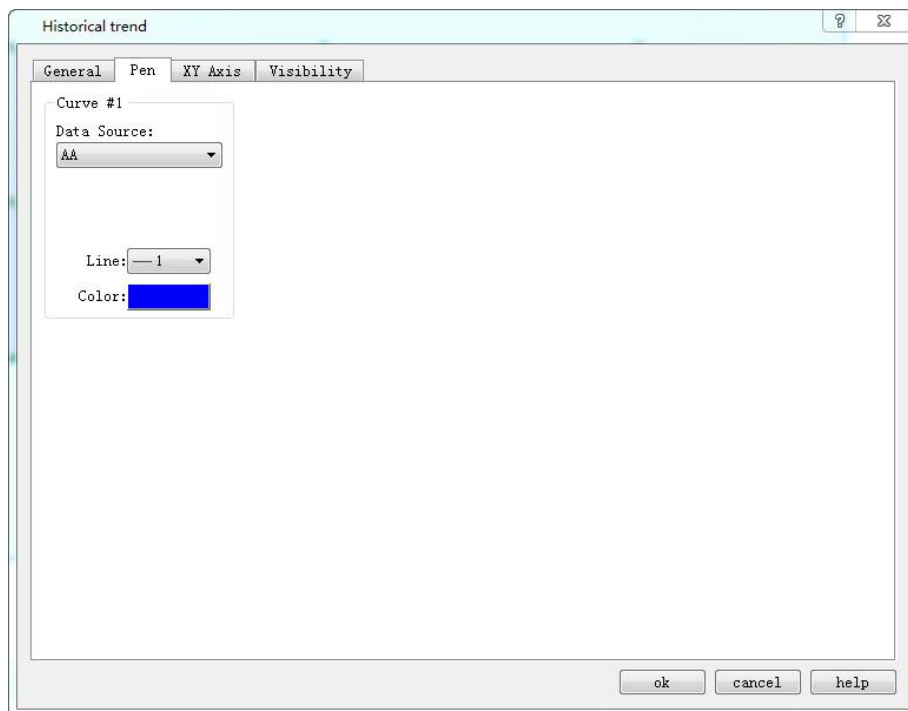

Figure 4-54 Pen tab of Historical trend
2. The "Line" page of the historical trend graph is shown in Figure 4-54.